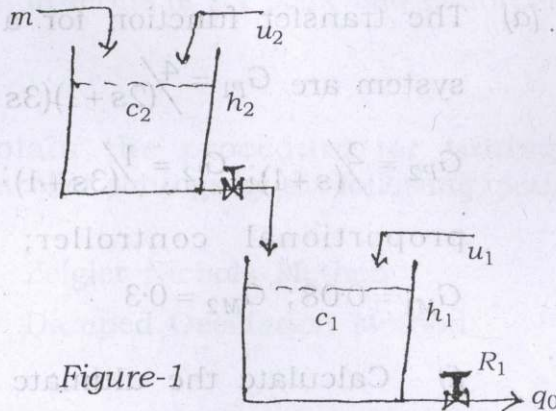

Figure-1
1. (a) Obtain the complete transfer function relating the variables of the system for the process shown in Figure-1. 10